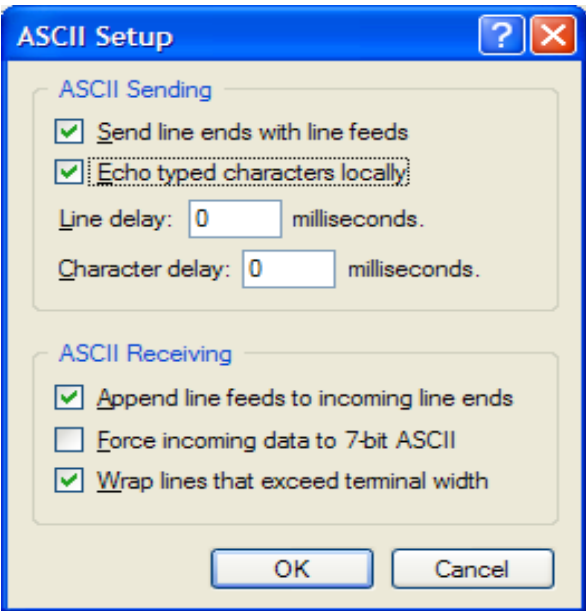

Figure 2-5. Additional Terminal Program Settings
- In the PC terminal program, set the properties in the optional settings as shown in Figure 2-5.